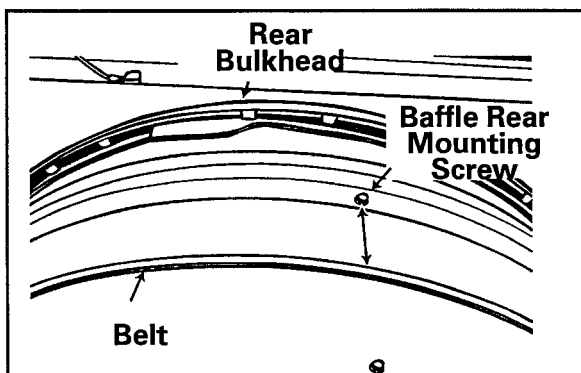

Figure 6-10
2. Place belt onto the outside of the tumbler and position the belt 1 1/2" in front of rear baffle mounting screws with ribbed side against tumbler. (See Figure 6-10)